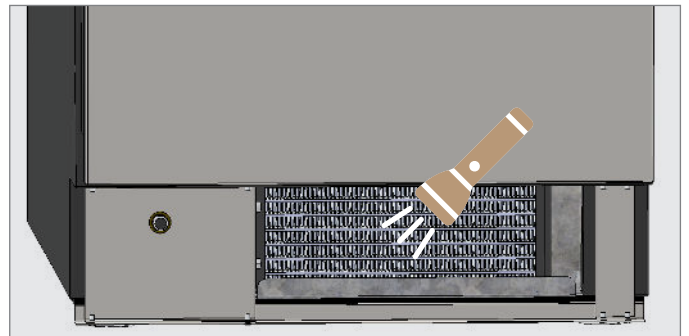

FIG. 3. Verify all blockages have been removed.
4. With the dirt removed from the surface of the coil, use a flashlight to verify you can see through the coil. See fig. 3.